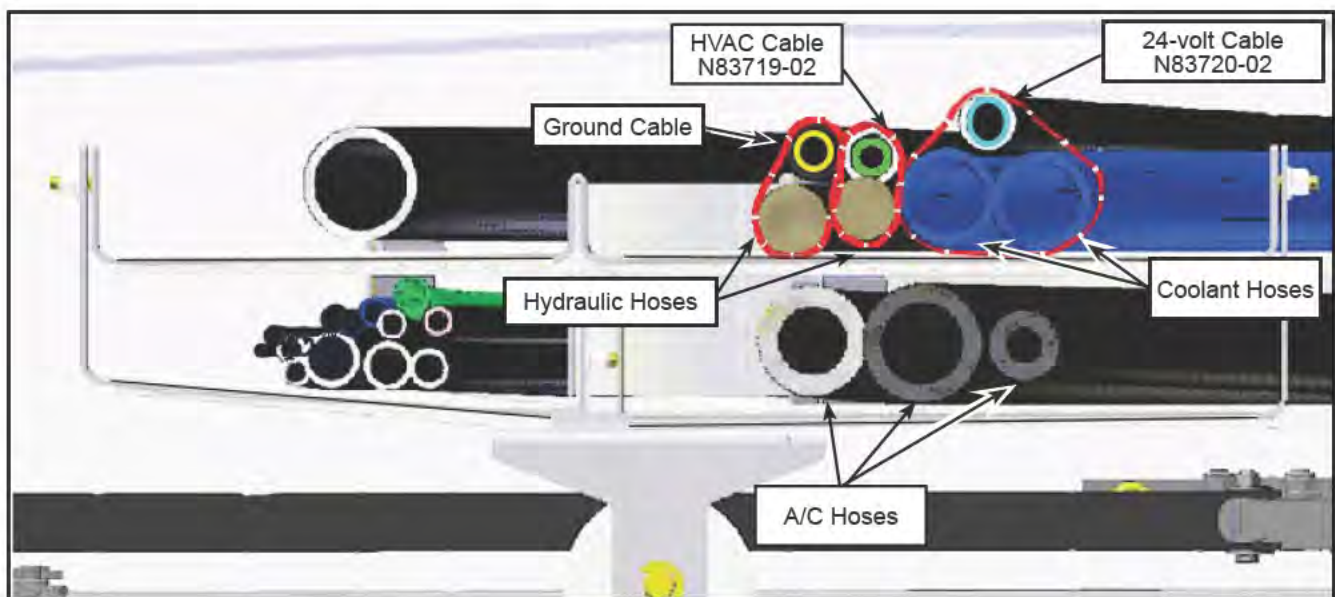
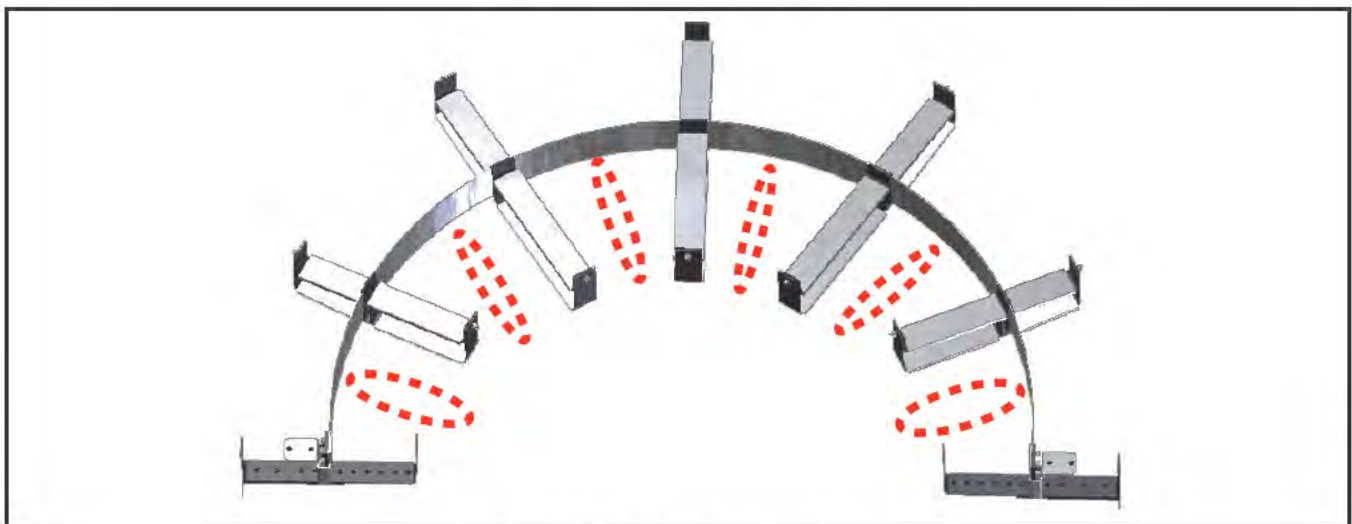

Figure 4 - Cable Tie Positions
Figure 5 - 6 Cable Tie Locations
- 2.2. Install the new HVAC cable N83719-02 and 24-volt cable N83720-02. Route 3 cable ties as shown in Figure 4. Cable ties will keep the cables loosely in place (do not tighten them yet). Typical for the 6 places shown in Figure 5.